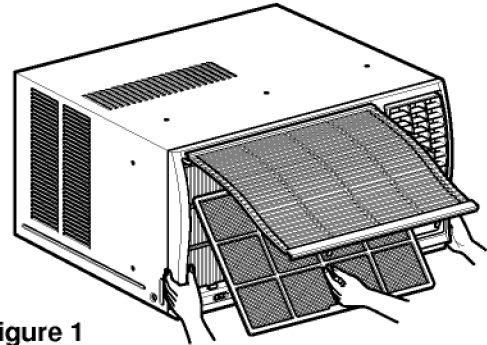

Figure 1
5. Re-install the component by referring to the removed procedure, above. (See figure 1)